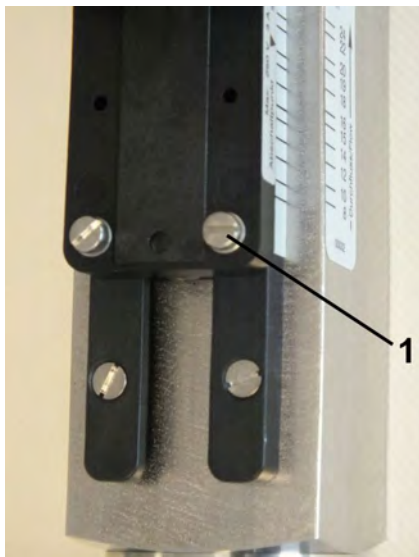

Fig. 34: Loosen set screws
1.  Loosen the set screws of the switch contact (Fig. 34/1) using a flat-bladed screwdriver.
3.  Tighten the set screws of the switch contact (Fig. 34/1) using a flat-bladed screwdriver. When doing so, observe the correct tightening torque of the screws.